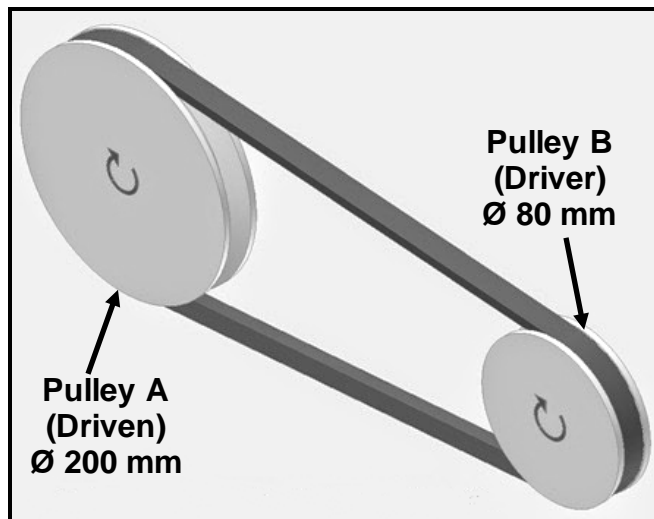

FIGURE 1.3
1.17 What will the rotation frequency of pulley **B** be if pulley **A** rotates at 2 000 r/min, as shown in FIGURE 1.3 below?